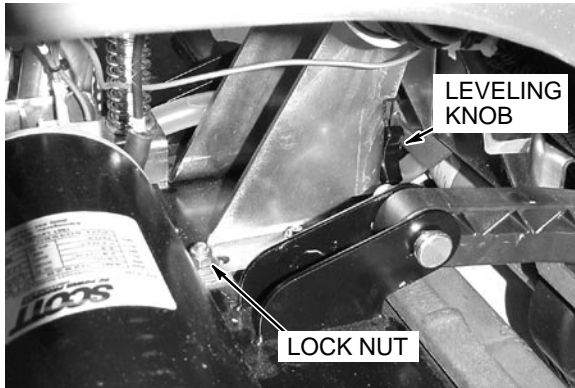

FIG. 23
4. To adjust scrub head, slightly loosen the (4) lock nuts on the roller mounting bracket and the jam nut on the scrub head leveling knob (Figure 23). Turn knob clockwise to lower rear of scrub head and counter-clockwise to lower front. 13mm socket wrench required.